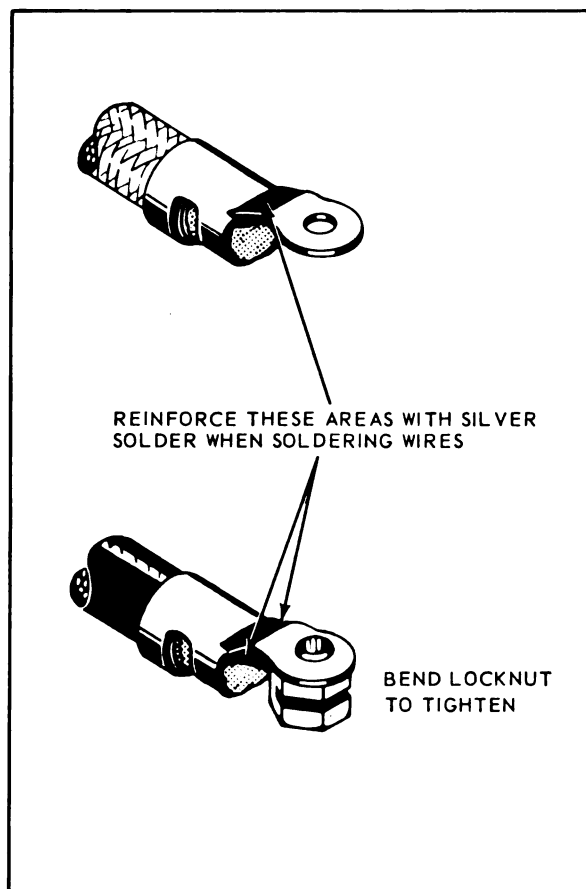

Figure 7-13. Reinforcing Solder on AN 5539 Terminals
- When solder has flowed down into wire grip, remove flame and allow joint to cool without disturbing it. Note that AN 5539 terminals require reinforcement with silver solder at indicated areas. See figure 7-13.